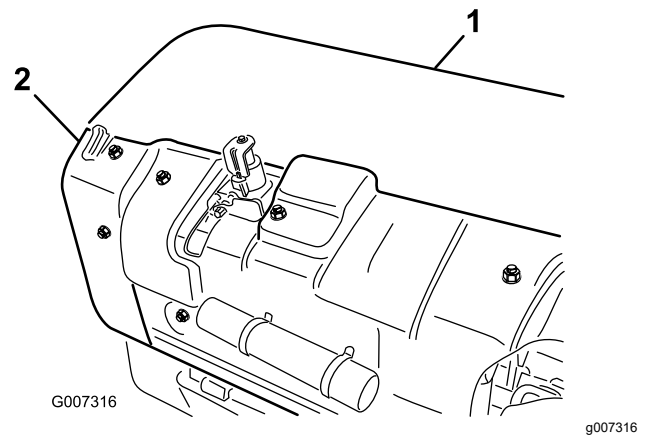

Figure 35
1. Remove the rear coring head cover (Figure 35).
2. Remove the pulley shield mounting bolts and remove the shield (Figure 35).